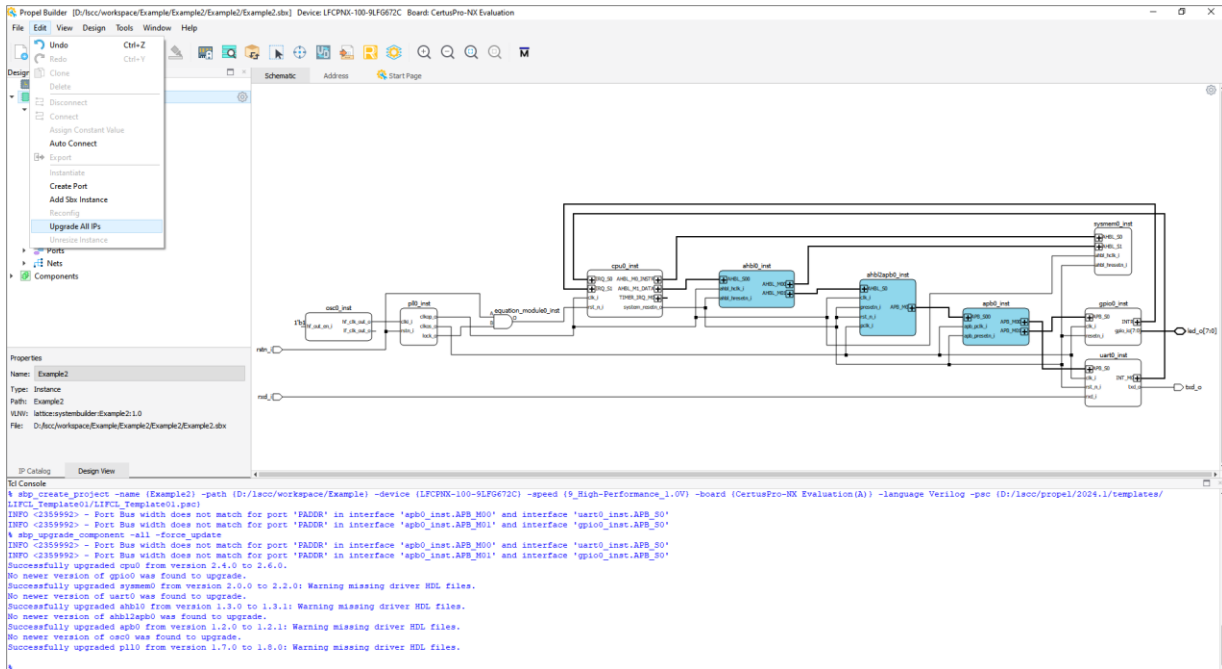

Figure 2.51. Upgrade All Ips
11. (Optional) Propeller Builder also supports to update all IPs. Choose **Edit > Upgrade ALL Ips**. Wait a few seconds, depending on how sophisticated the design is, to see the result (Figure 2.51).